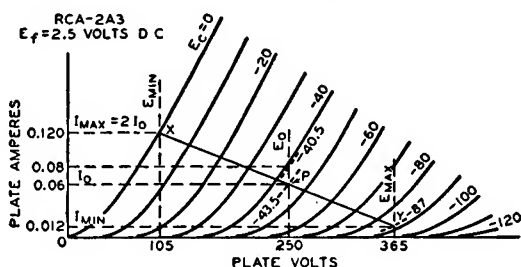

Fig. 20—Graphic calculations for class A amplifier using the 2A3 power triode.
per-cent second-harmonic distortion can also be determined. The calculations are made graphically and are illustrated in Fig. 20 for given conditions. The procedure is as follows:
**Example:** Determine the load resistance, power output, and distortion of a triode having an amplification factor of 4.2, a plate-dissipation rating of 15 watts, and plate-characteristics curves as shown in Fig. 20. The tube is to be operated at 250 volts on the plate.